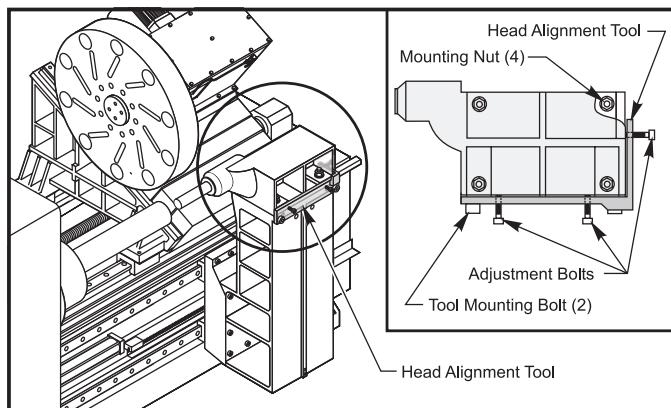

Figure 3.3-3
7. Measure flatness from base to end of tailstock. Add or remove shims if necessary using the tailstock head alignment tool. To adjust the number of shims, bolt on alignment tool, snug alignment bolts against the tailstock head, then remove the tool (Figure 3.3-3). Loosen either the front or rear pair of tailstock retaining nuts and add or remove shims as necessary. This will keep parallelism. Re-tighten the nuts. If necessary loosen the other end to add or remove shims as well. To re-align, install the alignment tool and position the tailstock against the adjustment bolts of the alignment tool. Snug the tailstock nuts and remove the tool.